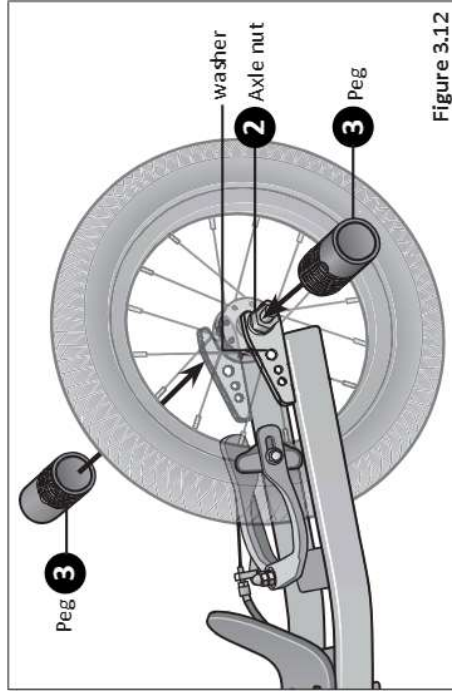

Figure 3.12
- 2** Check to make sure axle nuts are properly tightened before installing pegs. **Figure 3.12**